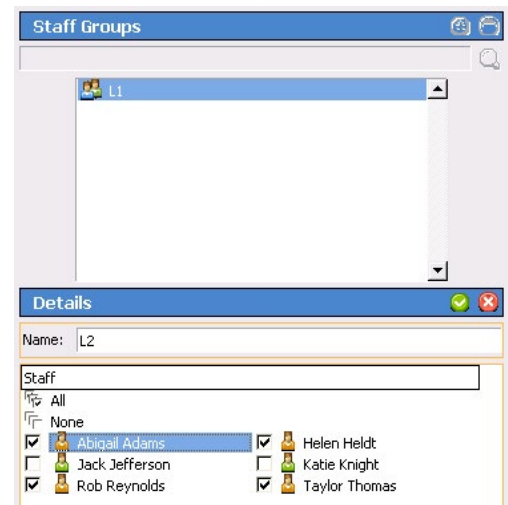

Figure 49: Config Tool Staff Groups
2. Select **Staff** from the page selection pane and click **Add** in the **Staff Groups** pane, shown in Figure 49.